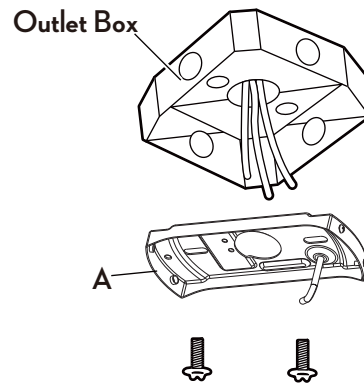

Figure 4
- Secure the mounting plate (A) to the ceiling outlet box as shown in Figure 4 by using two screws and washers (not provided). Make sure the mounting plate is level. You may need to insert additional washers (not provided) between the outlet box and the mounting plate to make it level.